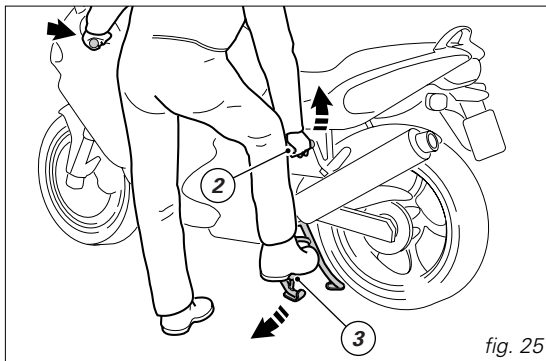

fig. 25
Hold the left handlebar with your left hand and the lifting handgrip (2, fig. 25) with your right hand. Push down on the thrust arm (3) of the centre stand until it touches the ground. At the same time, hold the handgrip and pull the motorcycle upward and backward.